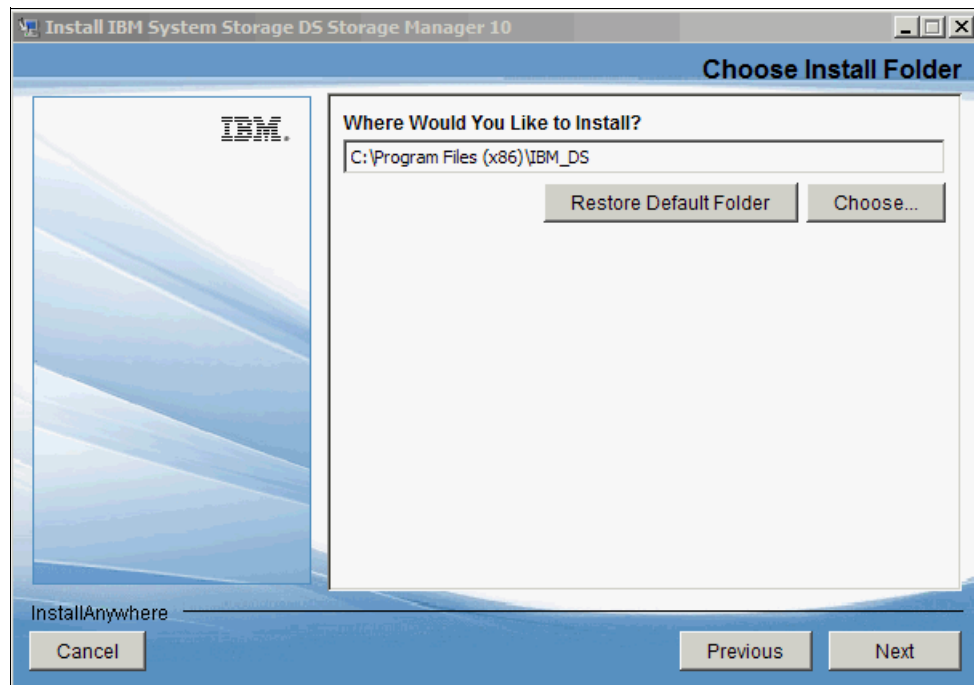

Figure 5-6 IBM DS Storage Manager Installation Folder
6. Specify the directory where you want to install as shown in Figure 5-6. The default is C:\Program Files (x86)\IBM_DS.